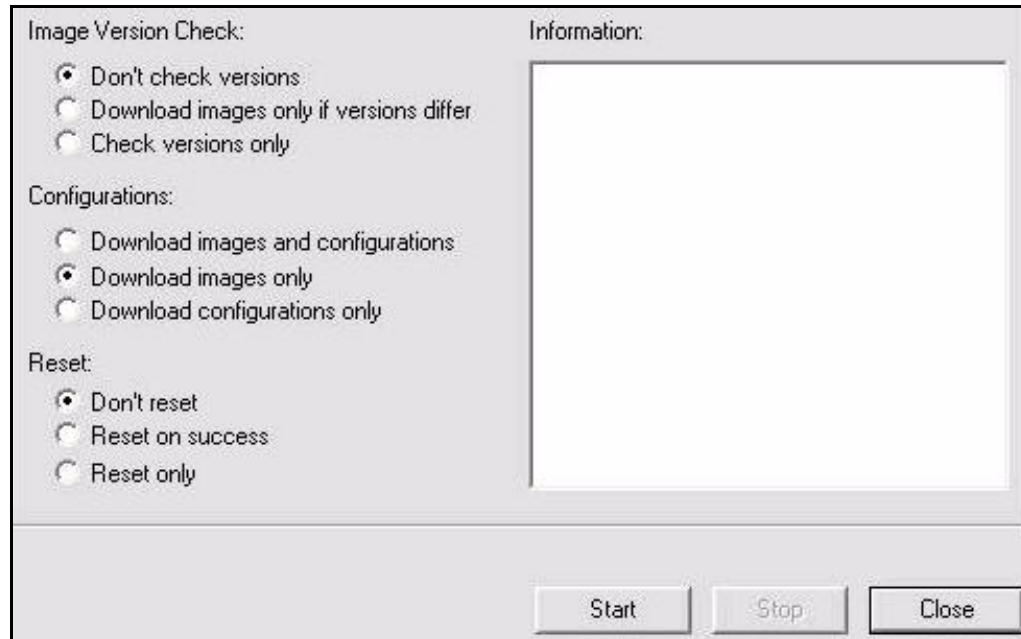

Figure 17. Download Package Dialog Box with Correct Selections
13. In the Download Package dialog box, select the following options as shown in Figure 17.
18. In the Download Package dialog box, select the following options as shown in Figure 17 on page 18.